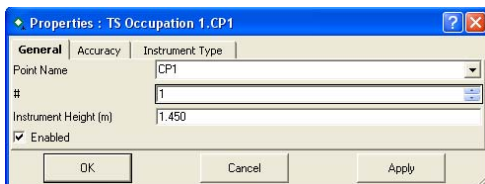

Figure 5-89. Add Manual TS Occupation Dialog Box
- In the *General* tab of the **Add Manual TS Occupation** dialog box (Figure 5-89):